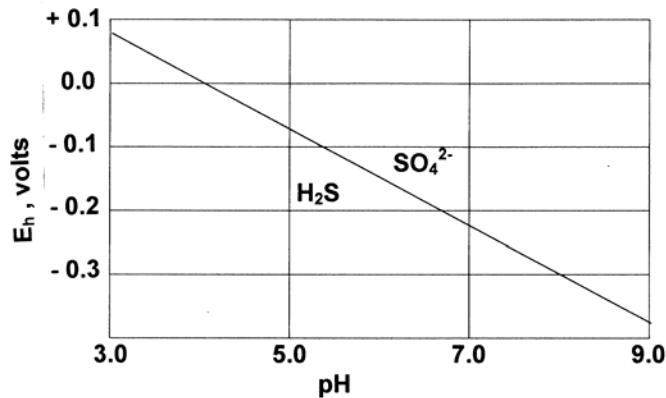

Figure 3 E_h -pH diagram for sulphur species
A plot of Equation (15) is shown in Figure 3. If the E_h and pH value of a chemical system plot on this line both the species (H_2S and SO_4^{2-}) have the same concentration. However, if for example the E_h value is 0.1 and the pH is 7, which is a point on the right side of the plot, substitution of these values in Equation (14) gives the value of ratio $[H_2S] / [SO_4^{2-}] = 10^{-43}$. Therefore, the plotting positions on the right side of the line show a predominance of SO_4^{2-} species in the water.